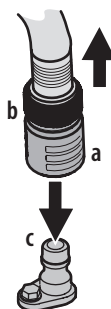

Figure 18
3. Pull back the lock collar (a) of the nozzle adapter (b) and push the nozzle adapter onto the deck wash nozzle (c). Release the lock collar to lock the nozzle adapter on the deck wash nozzle. See Figure 18.